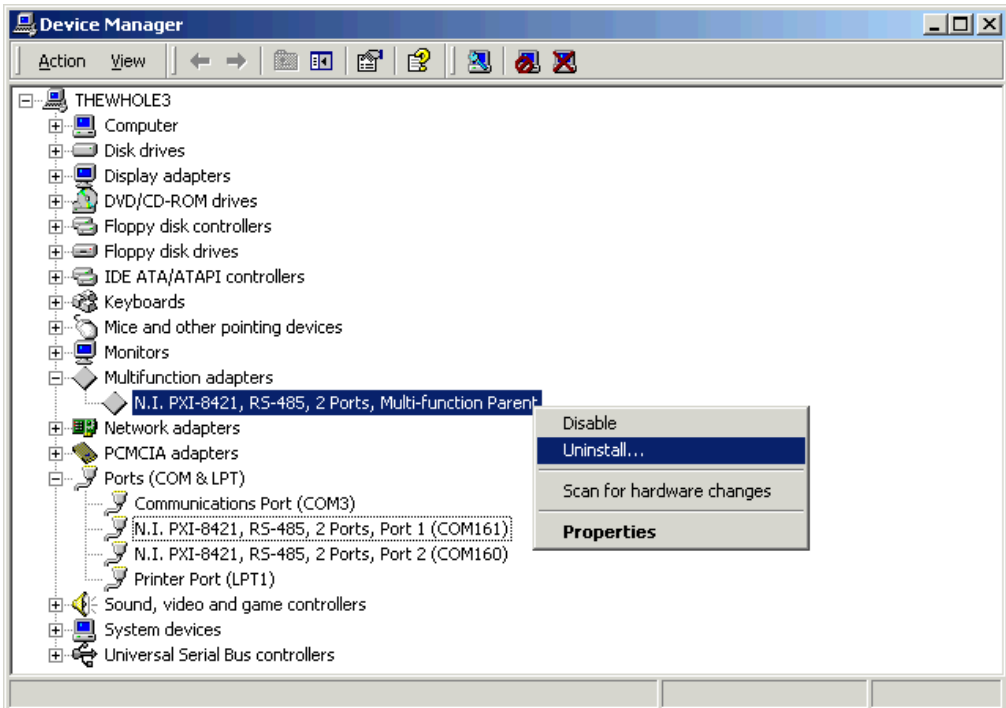

Figure C-1. Selecting an Interface to Uninstall
4. From the **Multi-function adapters** list, right-click on the National Instruments interface that you want to uninstall, as shown in Figure C-1.